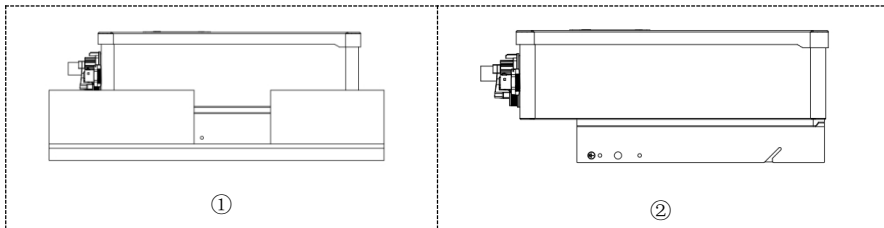

Fig.3-4 Moving the inverter
Step 1 Open the packaging, insert hands into the slots on both sides of the inverter and hold the handles, as shown in Fig. 3-4.